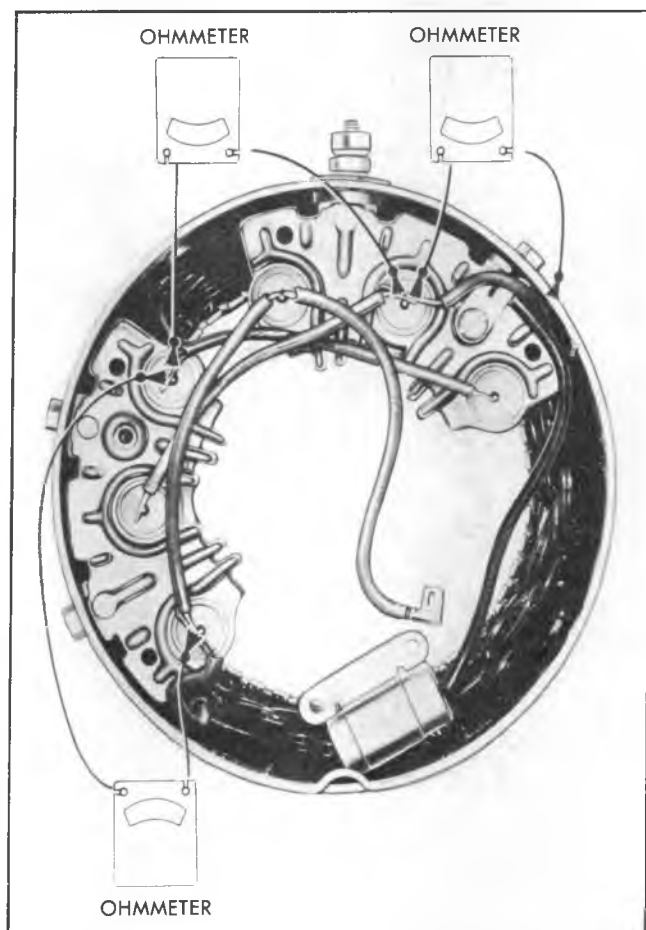

Fig. 5C--Checking Stator for Grounds or Opens
## TESTING STATOR (Fig. 5C)
4. Support outside end of frame around diode hole on a flat, smooth surface and press diode into position with J-9600-2 and an arbor press or vise. Make sure diode is square with end frame and started straight (fig. 5C).